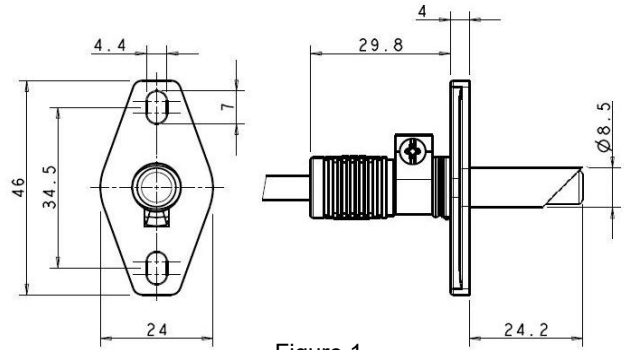

Figure 1
- X 11:** Phototransistor type FT11 (fig 1)